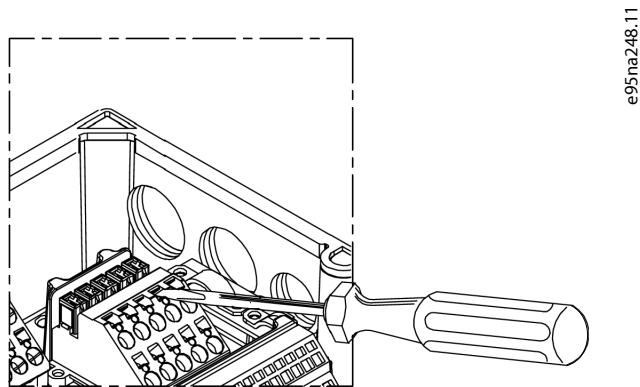

Figure 20: Opening the Terminals
1. Open the contact by inserting a small screwdriver into the slot above the contact, see Figure 20.